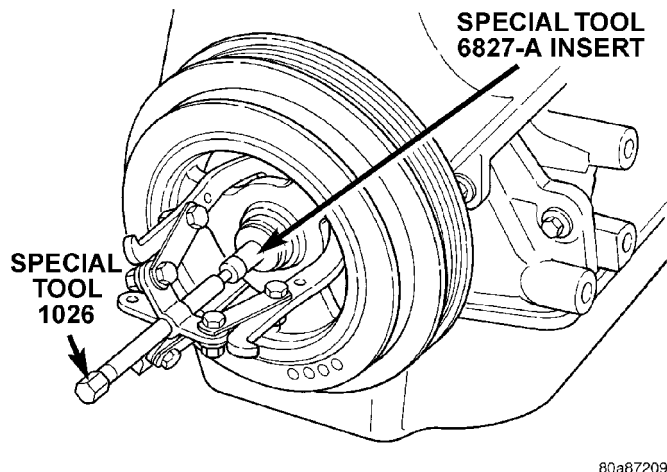

Fig. 44 Crankshaft Damper—Removal
(3) Remove crankshaft damper bolt. Remove damper using the large side of Special Tool 1026 and insert 6827-A (Fig. 44).